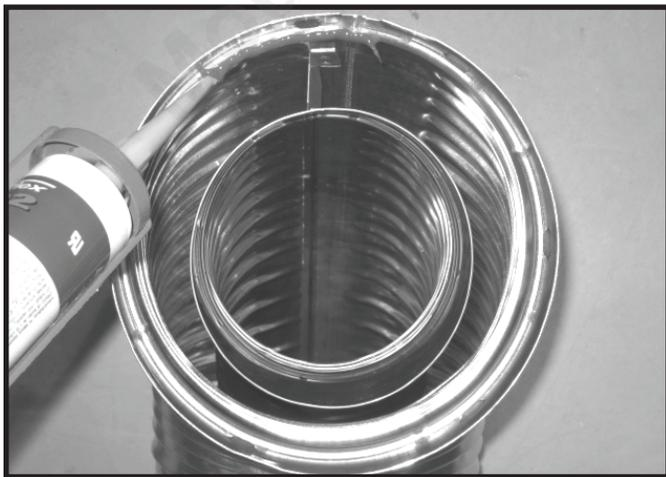

Figure 2.1 Silicone Sealant
- Apply a bead of silicone sealant inside the female outer pipe joint prior to joining sections. See Figure 2.1.